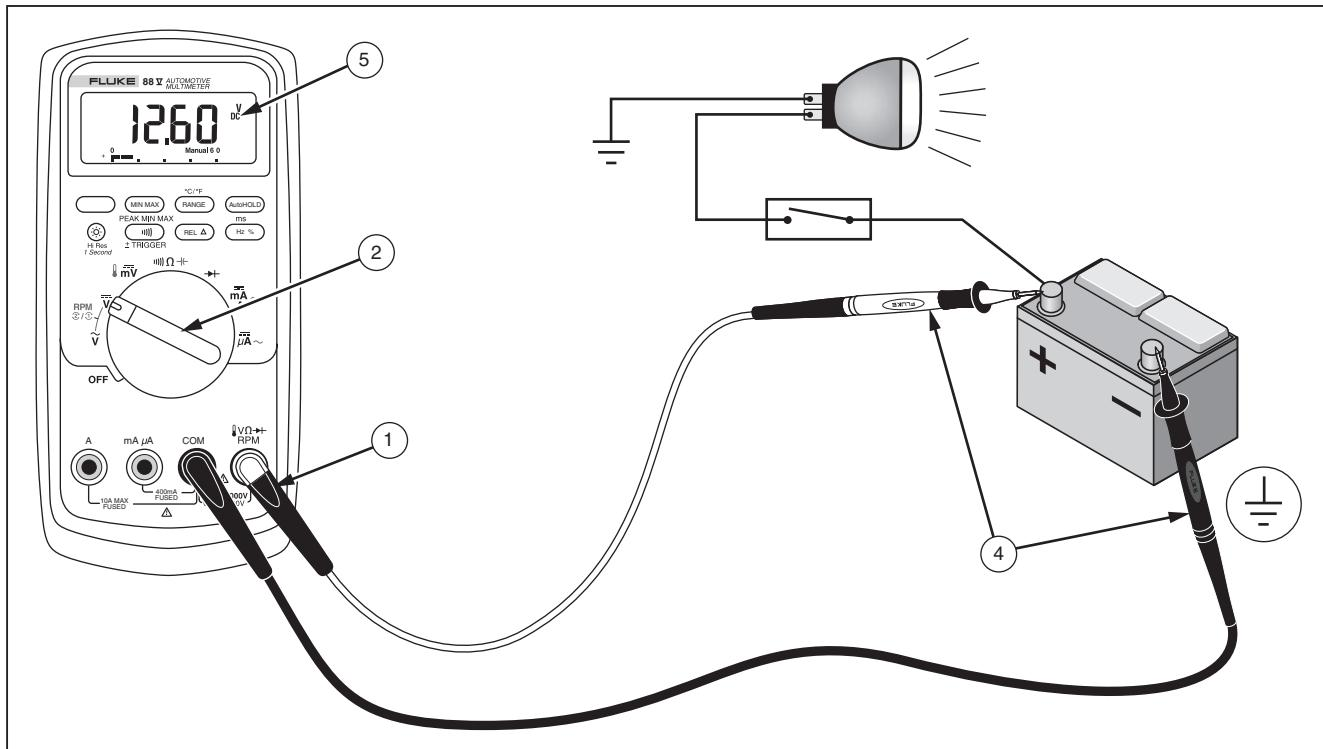

Figure 18. Measuring the No-Load Voltage of a Battery
1. Insert test leads in the input terminals shown in Figure 18.